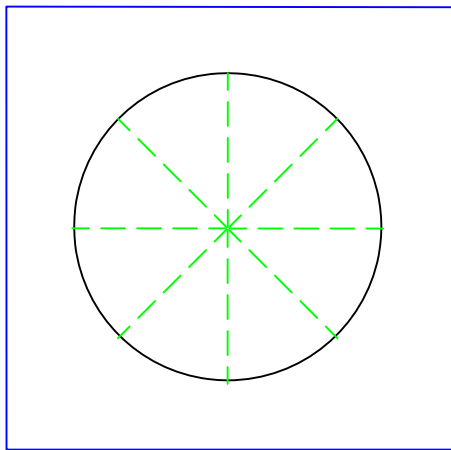
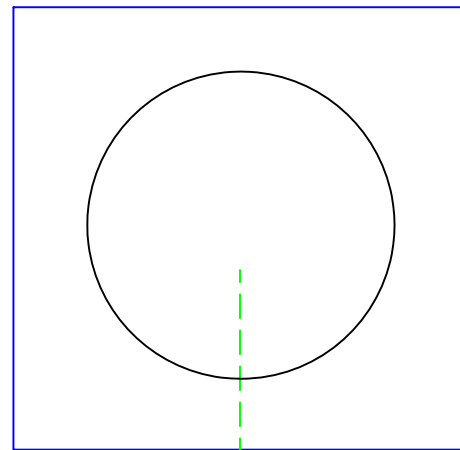

FIGURE 1
FIGURE 2
STEP 6: CUT THE TARGET PATCH IN THE PATTERN SHOWN IN FIG. 1. COAT THE PIPE WITH ADHESIVE AND PLACE THE TARGET PATCH OVER THE PENETRATION. IF THIS IS NOT POSSIBLE CUT THE TARGET PATCH AS SHOWN IN FIG.2 AND SLIDE INTO PLACE.